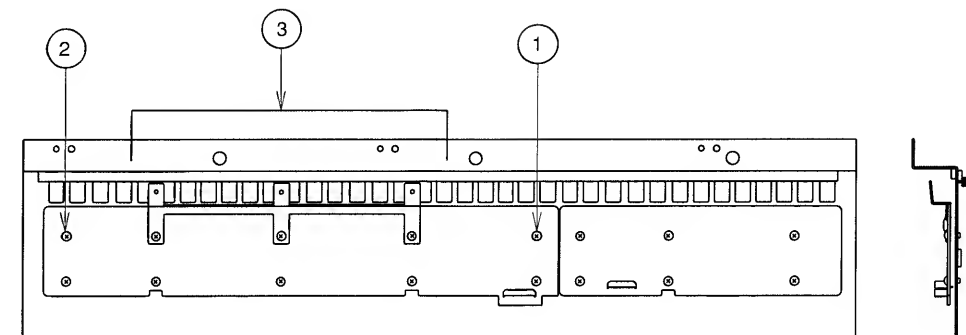

fig.7
4) Next, using TAP TIGHT SCREWS, fasten PCBs "LOW" and "HI" in place from the center of the keyboard, for example, from ① in the case of "LOW" as shown in fig. 7. PCBs may possibly float from SPACER by screwing. To avoid this, after screwing the center of the PCB ①, fasten the opposite end ②, before screwing other areas. (When fasten the area ③, fix the MAIN BOARD HOLDER together.) Also, PCBs may have been warped by soldering, etc. ,it is recommendable to screw them while lightly pressing the center area.